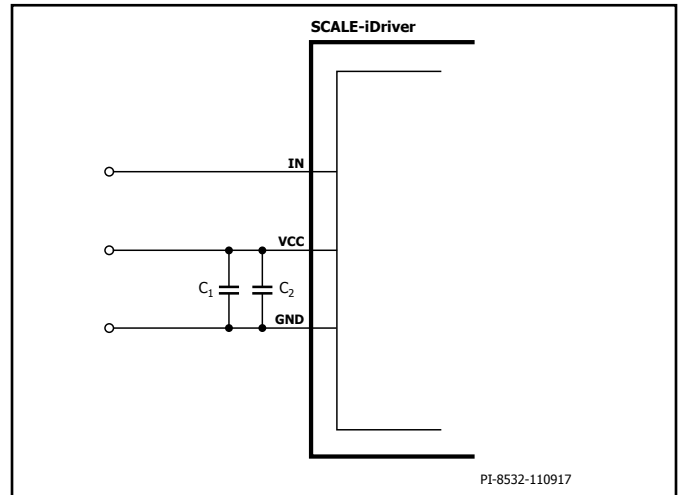
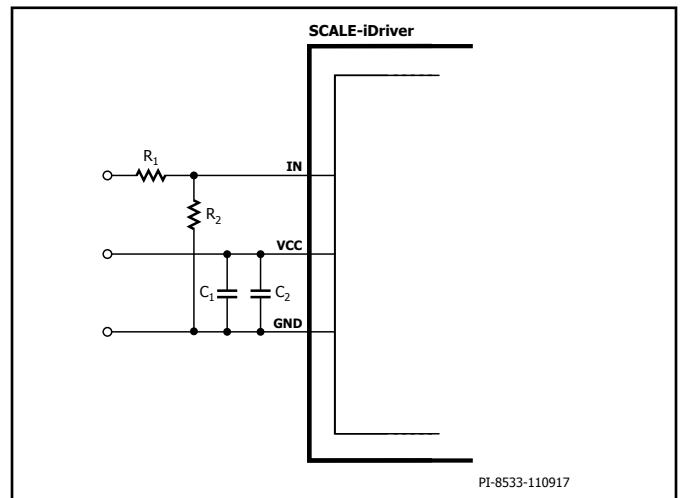
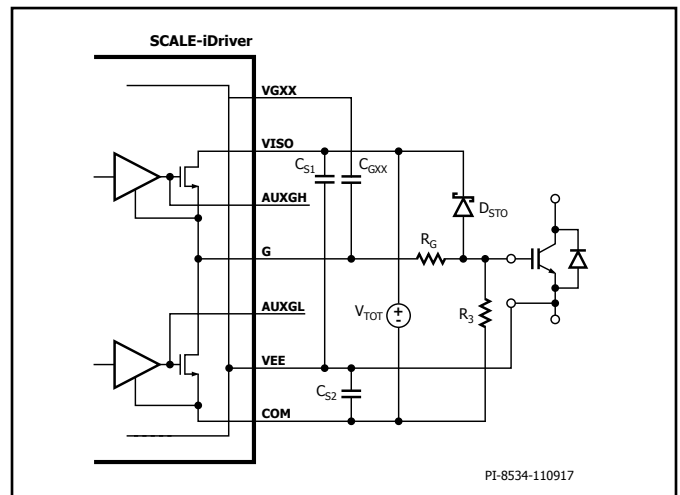
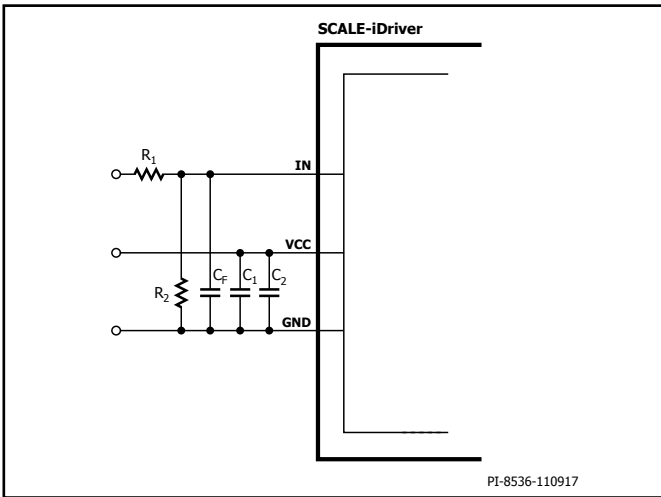

Figure 5. Recommended Circuitry for Standard 5 V IN Logic Level.
Figure 6. Recommended Circuitry for Increased IN Logic Levels. For $R_1 = 3.3 \text{ k}\Omega$ and $R_2 = 1 \text{ k}\Omega$ the IN Logic Level is 15 V.
Figure 7. SID1102K without External Booster Stage.
Figure 8. Optional Input Signal Filtering.
The input (IN) logic is designed to work directly with micro-controllers using 5 V CMOS logic. If the physical distance between the controller and the SCALE-iDriver is large or if a different logic level is required, the resistive divider in Figure 6 is recommended. This solution adjusts the logic level as necessary and will also improve the driver's noise immunity.
The gate of the power semiconductor switch should be connected to the SCALE-iDriver output via pin G, using suitable gate resistor R_G as shown in Figure 7.
It is recommended during power-up and power-down that the IN pin stays at logic low. Any supply voltage related to VCC, VISO, VEE and VGXX pins should be stabilized using ceramic capacitors C_1 , C_2 , C_{S1} , C_{S2} and C_{GXX} respectively as shown in Figure 5 and Figure 7. After supply voltages reach their nominal values, the driver will begin to function after a time delay t_{START} .
Figure 5 and Figure 7 show the primary-side and secondary-side schematic and typical components used for SID1102K design without a booster stage, in which the primary-side supply voltage (V_{VCC}) will be connected between VCC and GND pins and supported through supply bypass ceramic capacitors C_1 (4.7 μ F typically) and C_2 (470 nF typically). If the command signal voltage level is higher than the rated IN pin voltage, a resistive voltage divider should be used (Figure 6). Additional capacitor C_F can be used to provide input signal filtering as shown in Figure 8. The filter time τ can be calculated according to equation (1):
To avoid parasitic power-switch-conduction during system power-on the gate is connected to COM through 22 k Ω resistor R₃ as shown in Figure 7.
The primary-side can be setup identical as described in the previous section referring to Figure 5 or Figure 6 or Figure 8.